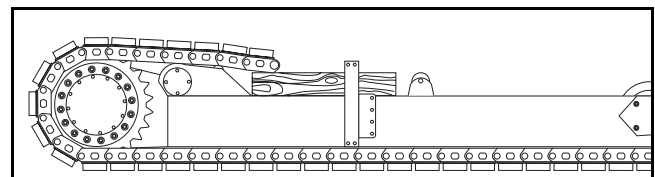

Figure 6 - 63 Rotate sprocket to install track
- 6) Use a come-a-long or hoist to lift and draw the track ends together. (Figure 6 - 64)